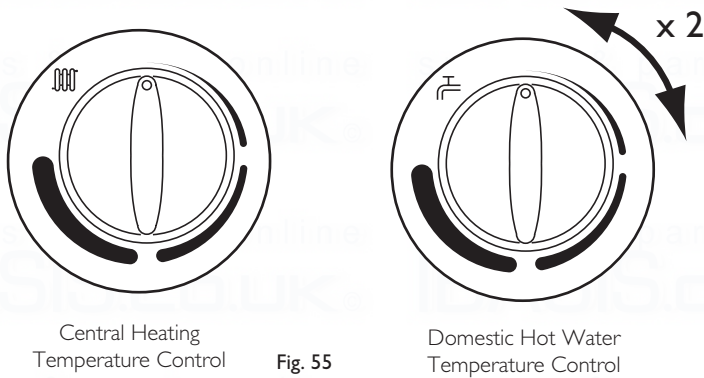

Fig. 55
3. Ensure that the integral timer and any external controls are calling for heat, and the selector switch is in the central heating and hot water position (CH). The current boiler temperature is shown on the display.
5. Turn both temperature control knobs fully anticlockwise, then quickly turn the DHW temperature knob 1/4 clockwise twice and back fully anticlockwise (Fig. 55).